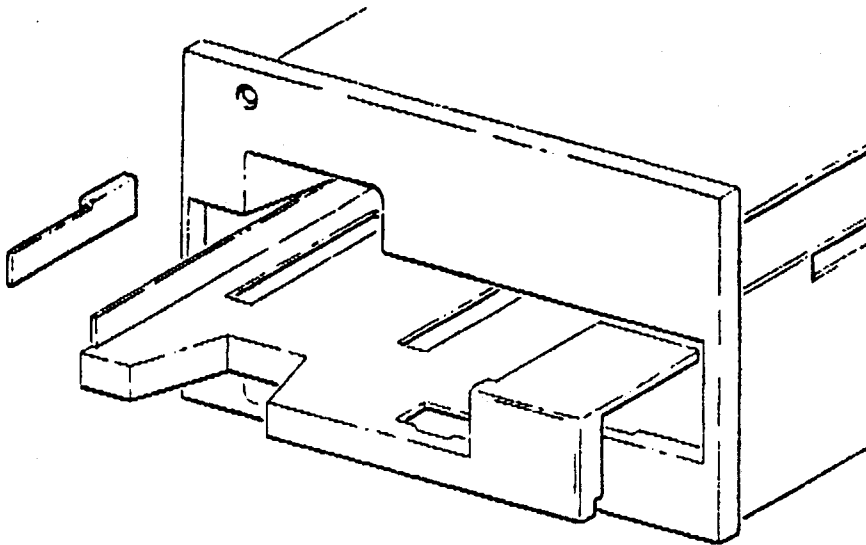

FIGURE 1
1. Place the 540-CT on a flat surface and open the tape cartridge tray as in figure 1.